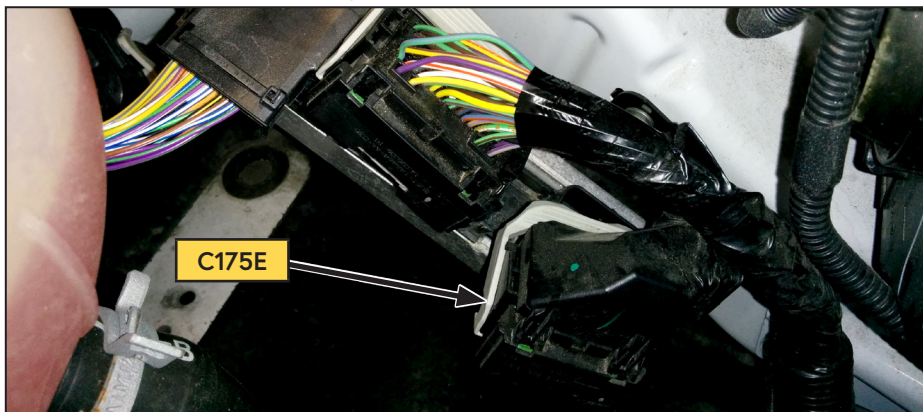

Figure 73 — Powertrain Control Module
- Lift the grey locking tab on C175E and pull the connector up to remove it (Figure 73).